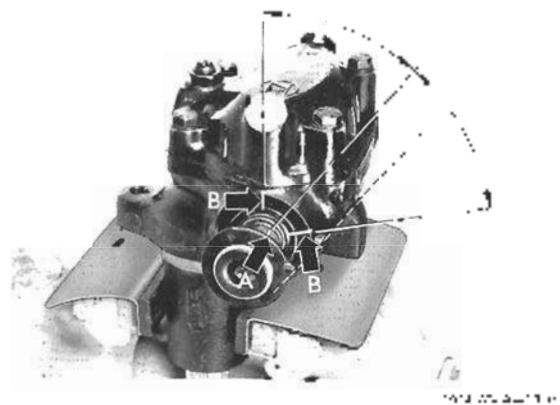

Fig. 9-28. Line on worm spindle (A) centered between marks on gearbox case (arrows B).
3. Set the mark on the spindle (arrow A in Fig. 9-28) exactly half-way between the two marks on the case (arrows B in Fig. 9-27).